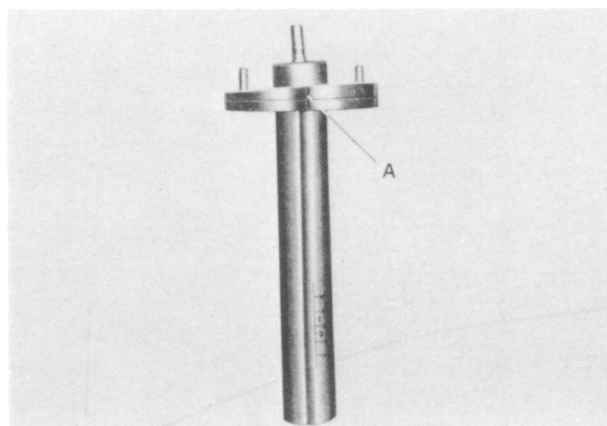

Fig. 11-19 Installing angle plate
- 2) Install the angle plate (right or left) corresponding to the side to be corrected onto the slide post so that it is in line with A as shown in Fig. 11-19.